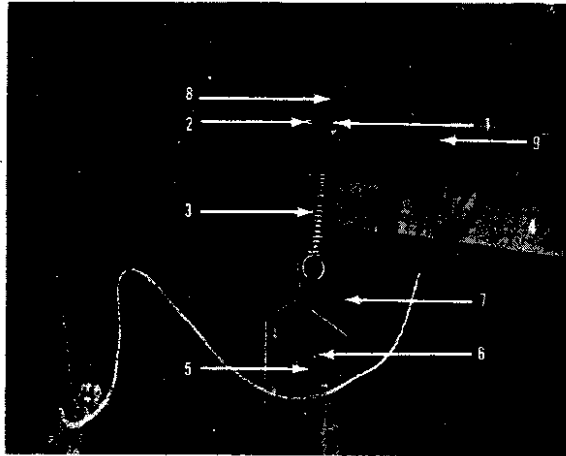

Fig. 5. Receiver Tilt-Out Mounting
Remove the screw and washer (#1 in figure 5) from both tilt-out spring studs (2), one on each side of the tilt-out assembly. Slip the tilt-out springs (3) off their respective studs. Unscrew the ends of the tie-bar (4). The tie-bar then hangs free on the copper braid used to bond it to the chassis.
Make sure the rubber bumpers (#9, Fig. 5) and rubber strips (#8) are in place.
Replace the tie-bar (#4). Replace the tilt-out springs (#3). See figure 5). Reconnect the cabinet wiring and cables to the receiver chassis. Check to see that the rubber bumper (#9) and rubber strips (#8) are in place. The assembly should now appear as shown in figure 5.